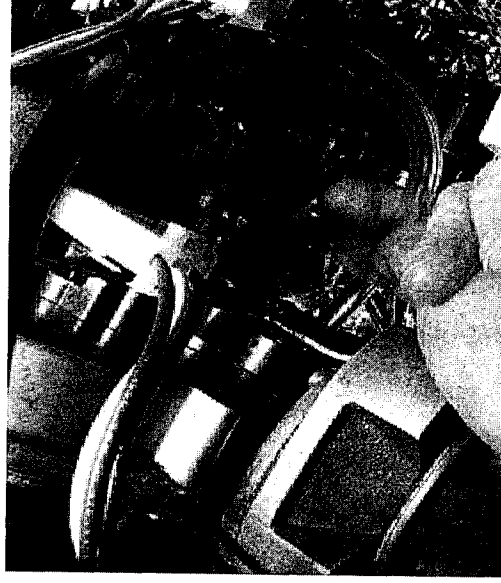

Figure 2
2. After replacing the blower take the clear plastic tube from the air switch and fit it snugly over the air inlet (shown in figure 2). You may need to disconnect molex wiring connectors in order to access the area.